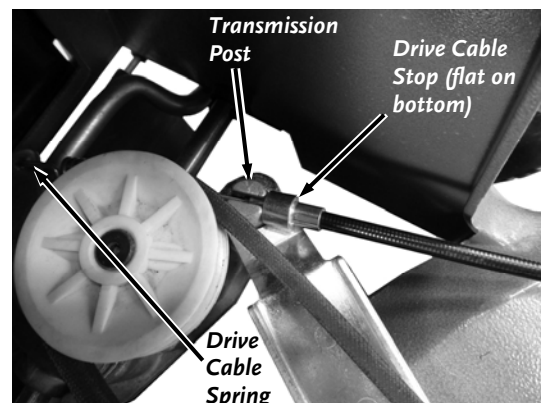

Figure 23
- When the Transmission is rotated back into position, make sure the metal portion of the Transmission Cable is inserted fully into hole in the Transmission Post (**Figure 23**). There is a flat area on the metal portion of the Cable that must rest against the Transmission Bracket. Also check that the Cable Spring is attached to the Transmission.